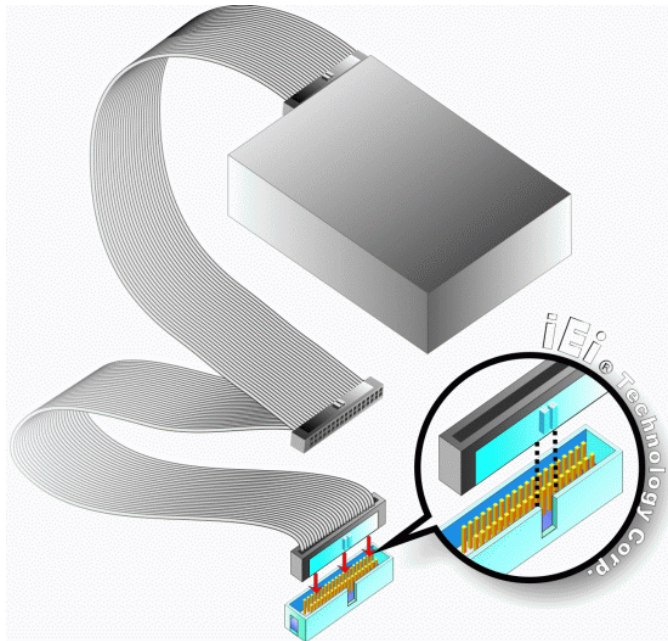

Figure 5-13: IDE Cable Connection
Step 2: Insert the connector. Connect the IDE cable connector to the onboard connector. See **Figure 5-13**. A key on the front of the cable connector ensures it can only be inserted in one direction.